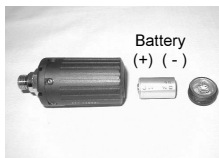

Fig. 120 - BATTERY
- Ensure that the Battery is properly oriented (Fig. 120) and the Cover O-ring is evenly seated around the Battery Cover.